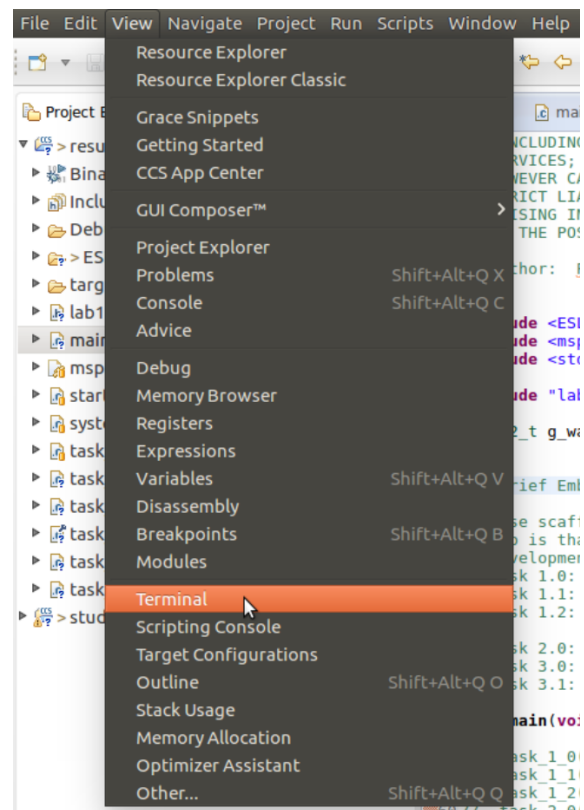

Figure 9: To open the terminal view, go to View→Terminal.
- Start the program and open a terminal in CCS to observe the UART input (see Figure 9, 11 and 10).